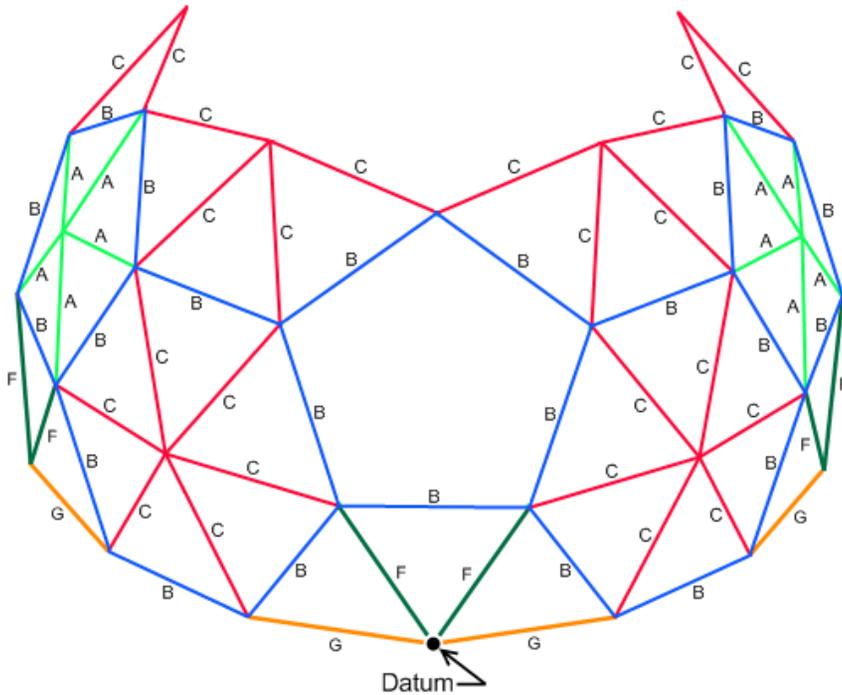

Figure 11 - Remove A's for door.
- In this step you will remove some struts to make room for the door. Start by removing the 5 A's above the datum. See Figure 11.